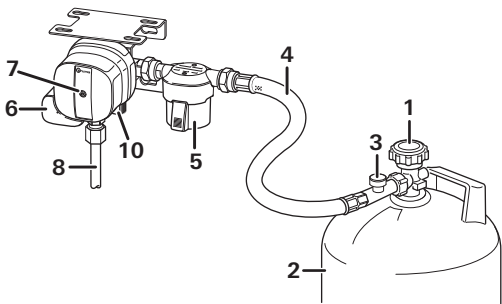

Figure 1a
- Connect the gas cylinder (2) and ensure that the hose connection is in perfect condition.
- Open the cylinder valve (1).
- Firmly press the hose rupture protection (figure 1a – 3) on the high-pressure hose for about 5 seconds.
- If the yellow reset button (7) is not pressed (“not ready for operation” position), reset the crash sensor.
- Close the valve (1) of the empty gas cylinder (2).
- Remove the high-pressure hose (4) from the gas cylinder (2) and remove the clip-on adapter, if present.
- Open the full gas cylinder's valve (1).
- Press the hose rupture protection (figure 1a – 3) and if necessary the yellow reset button (7), turn it slightly clockwise and hold it for 10 seconds.
- Screw the country-specific high-pressure hose (4) to the gas filter (5) / MonoControl CS inlet and to the cylinder (2 / or the clip-on adapter).